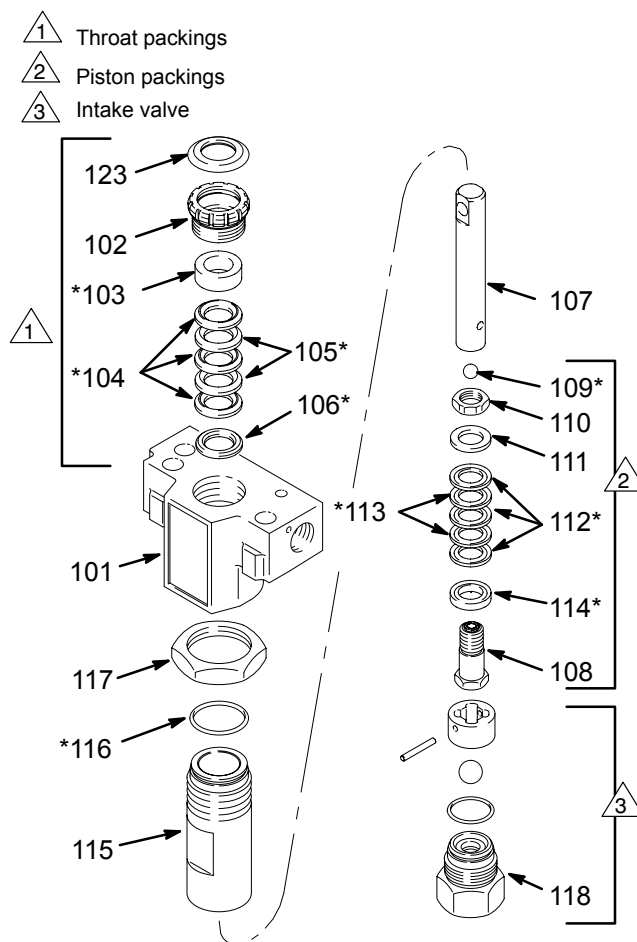

Fig. 19
## Disassembling the pump (See Fig. 19.)
**NOTE:** Alternate plastic and leather packings. See Fig. 19. The lips of the throat V-packings face down. The lips of the piston V-packings face up. Incorrect installation damages the packings and causes pump leakage.
1. Check the outside of the piston rod (107) and the inside of the cylinder (115) for wear. Replace worn parts to ensure a good seal with the new packings.
2. Stack these parts onto the piston valve (108) one at a time: the female gland (114\*), alternately three plastic (112\*) with two leather packings (113\*), and the male gland (111\*). See Fig. 19.